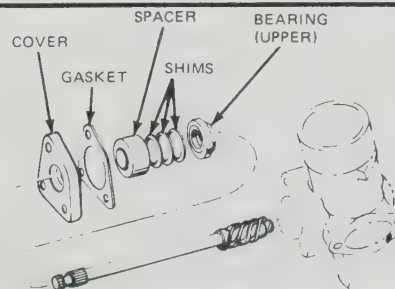

Fig. 11.8. Pinion bearing cover and shims (Sec. 20)
- 15 Assemble the shim pack with the thinnest shim (or shims) first and then follow with the 0.093 in (2.362 mm) shim next to the cover (Fig. 11.8).